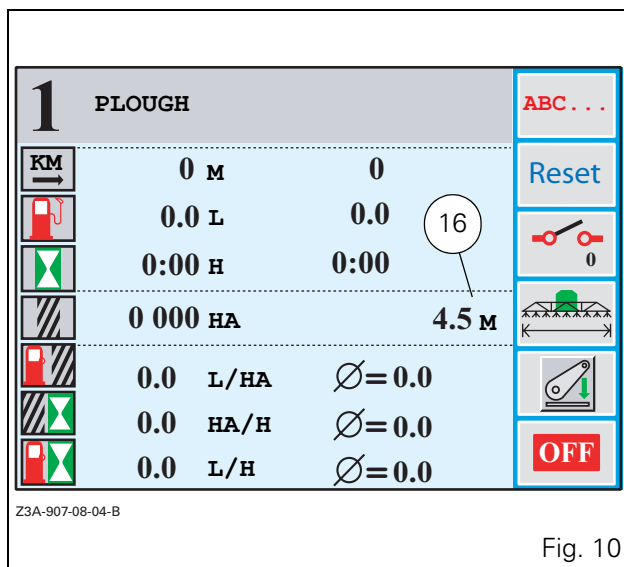

Fig. 10
- To validate the implement name, press the **ESC** key. The window (Fig. 10) is displayed.